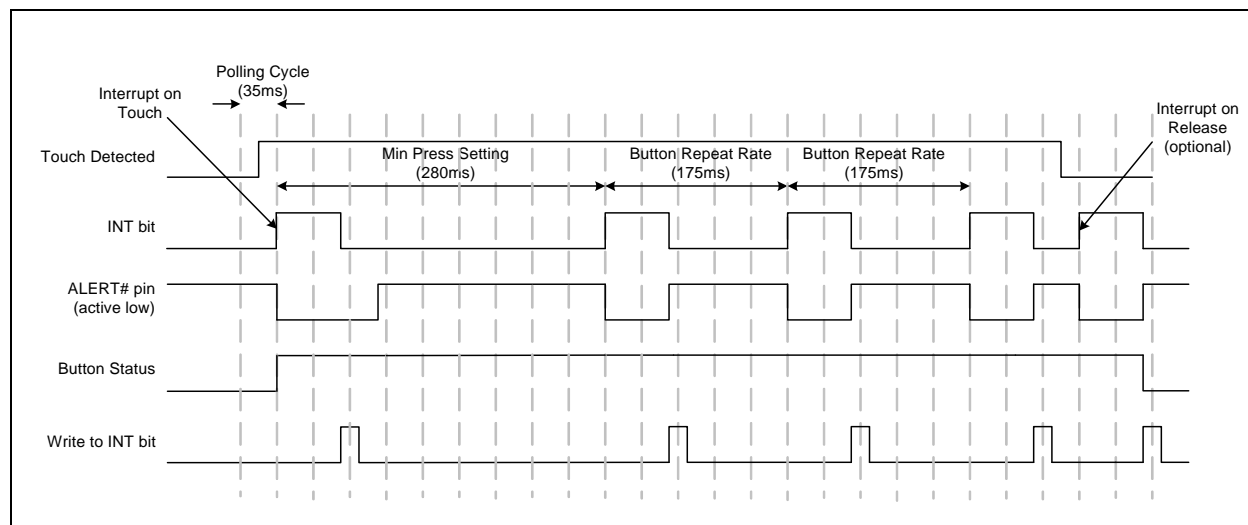
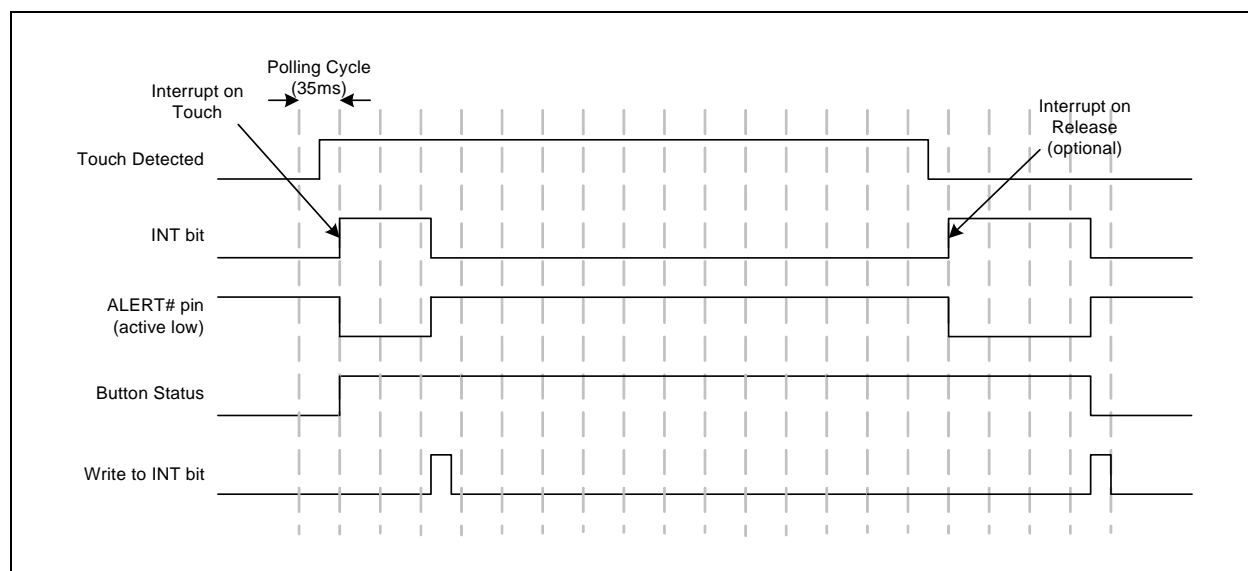

Figure 4.2 Sensor Interrupt Behavior - Repeat Rate Enabled
Figure 4.3 Sensor Interrupt Behavior - No Repeat Rate Enabled
1. An interrupt is generated when a touch is detected and, as a user selectable option, when a release is detected (by default - see Section 5.6). See Figure 4.3.
2. If the repeat rate is enabled then, so long as the touch is held, another interrupt will be generated based on the programmed repeat rate (see Figure 4.2).
APPLICATION NOTE: Figure 4.2 and Figure 4.3 show default operation which is to generate an interrupt upon sensor pad release and an active-low ALERT# pin.